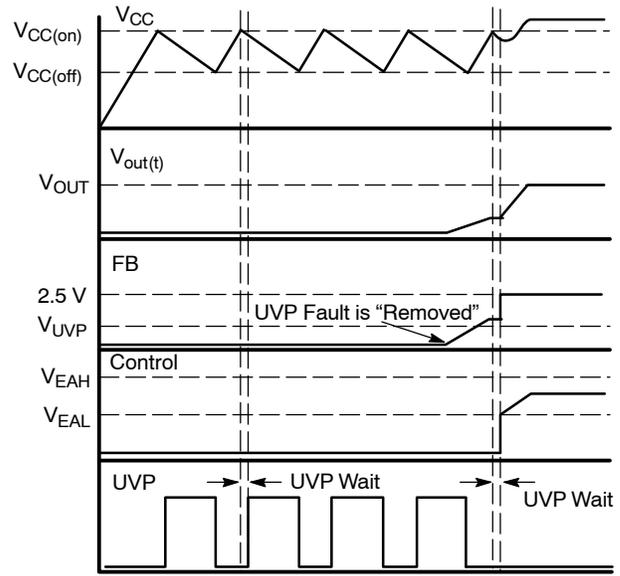

Figure 36. The NCP1607's Startup Sequence with and without a UVP Fault
Furthermore, the NCP1607 incorporates a novel startup sequence which ensures that undervoltage conditions are always detected at startup. It accomplishes this by waiting approximately 180 μ s after V_{CC} reaches $V_{CC(on)}$ before enabling the error amplifier (Figure 36). During this wait time, it looks to see if the feedback (FB) voltage is greater than the UVP threshold. If not, then the controller enters a UVP fault and leaves the error amplifier disabled.